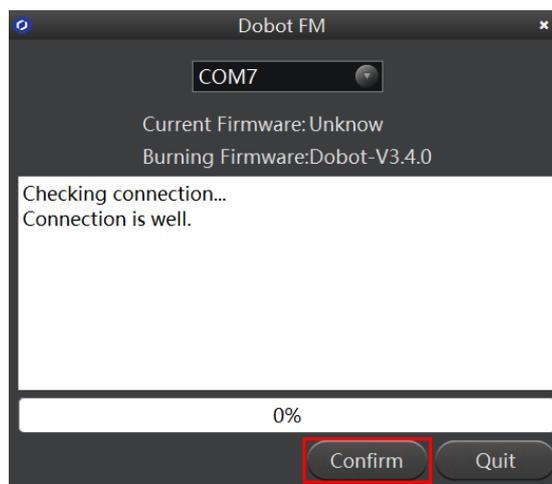
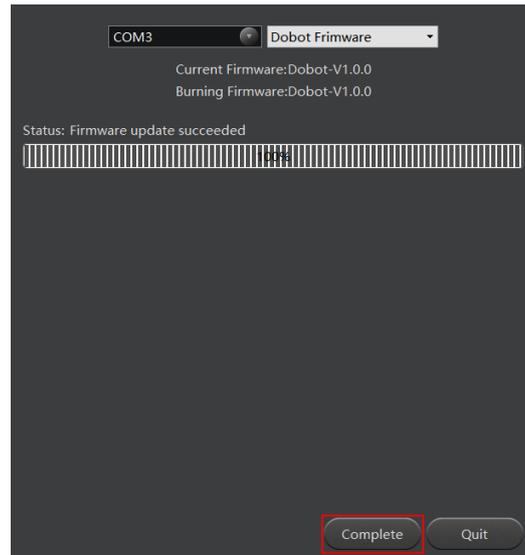

Figure 5.89 Click Confirm
Figure 5.90 The firmware upgrade is successful
3. Click **Confirm** to upgrade the Dobot firmware, as shown in Figure 5.89. When the upgrade process bar shows 100%, and a short beep sound is heard, it means that the firmware is upgraded successfully, as shown in Figure 5.90. In this case, the LED indicator turns from red to green. Then click **Complete** to exit.